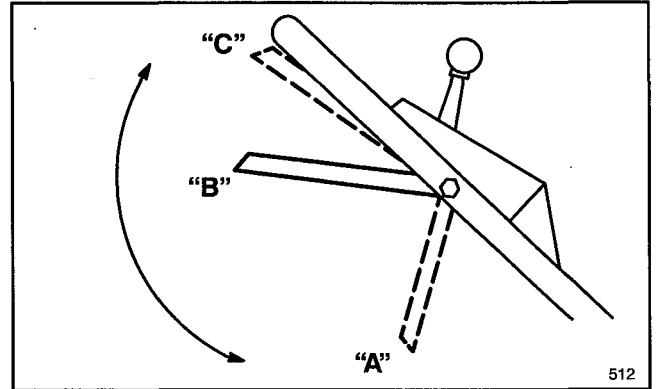

Figure 11
4. **BLADE AND TRACTION OPERATION** (Fig. 11)—When control bar is in position "A", slide control bar to right and raise to position "B" to engage blade. Squeeze control bar against handle to position "C" to drive. To disengage traction drive but keep blade engaged, gradually release control bar to position "B". To self-propel with blade disengaged, simply squeeze control bar against handle to position "C", without sliding control bar to right.